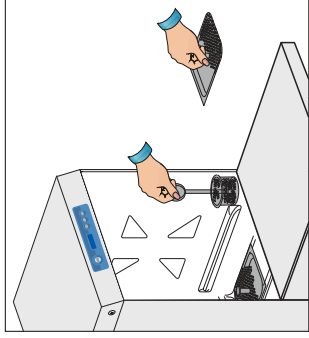

Fig. 1
1. Check if the pump suction filter is properly inserted in its seat on the wash tank bottom (Fig.1). This filter must be cleaned every 20 wash cycles or whenever necessary. **Do not use the appliance without the filters.*
Put the surface filters in place (Fig.1), shut the dishwasher door, turn the water valve open and turn the main power switch on.